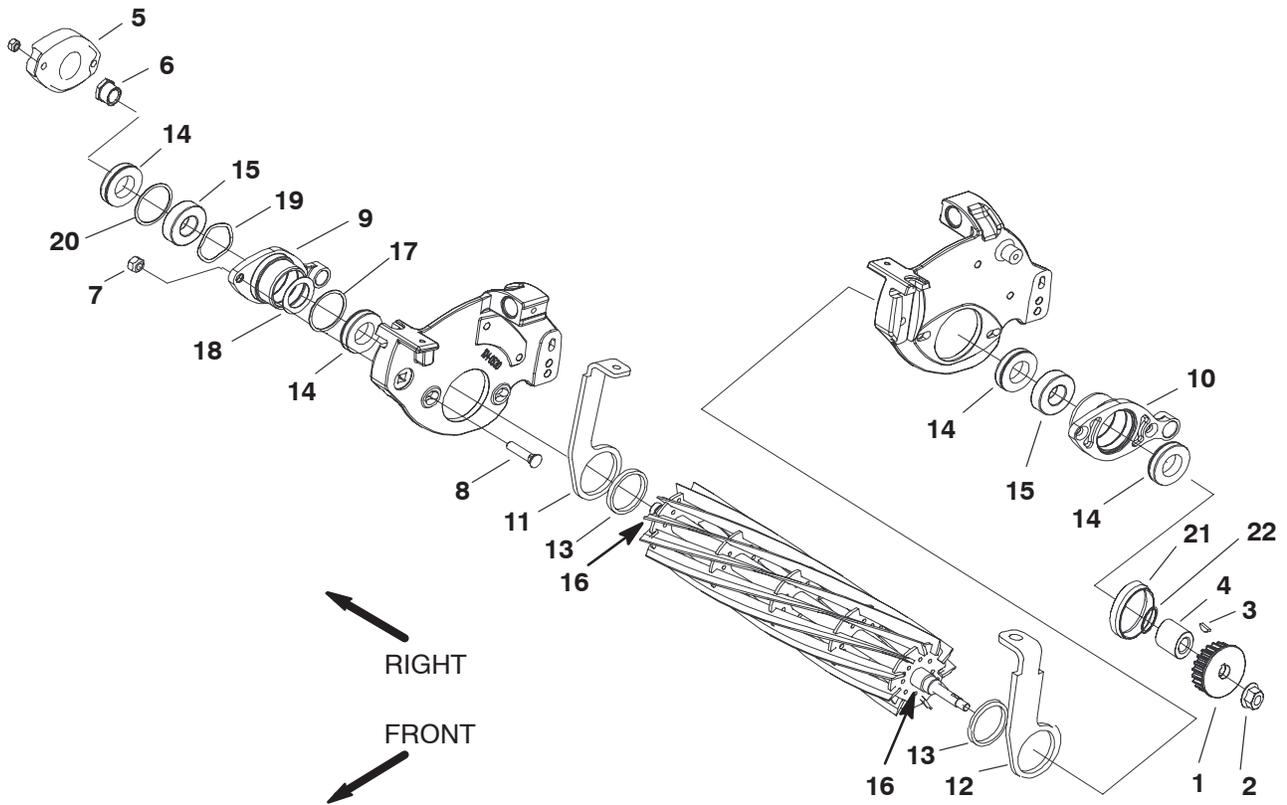

Figure 3
9. Remove the reel bearing lock nut from the right side of the reel (Fig. 3). The reel bearing lock nut has left hand threads.
10. Remove the two tapered nuts and plow bolts securing each reel bearing housing to the cutting unit side plates (Fig. 3).
Note: If this kit is being used to retrofit the cannister seals to oil seals, a new bearing locknut and spacer (Fig. 3, items 4 & 6) are required. The oil seals in this kit require the bearing locknut and spacer to have a 1.25" O.D. (old parts have a 1.125" O.D.). Order part no. 107-3227 bearing locknut and 107-3228 spacer from you local authorized Toro Distributor
11. Remove both the oil seals from each bearing housings (Fig. 3).
Note: If the reel bearings (Fig. 3) are worn or need replacement, refer to the Service Manual for bearing replacement instructions.
- Apply anti-seize lubricant to the bearing journals of the cutting reel (Fig. 3). Position the reel with the pitch arms and the bushings in the frame to accept the bearing housings. The reel shaft end with the keyway should be on the left side of the frame.
- Insert both the bearing housings (Fig. 3) through the frame onto the reel shaft.
- Apply anti-seize lubricant to the internal threads of the bearing lock nut (Fig. 3). Block the reel with a piece of wood to prevent it from turning. Install and tighten the bearing lock nut to the reel shaft.
20. Install the spacer in the left side reel bearing housing (Fig. 3). Mount the reel drive plate assembly to the side of cutting unit with two locknuts, capscrew, and lockwasher. Tighten the fasteners to secure the assembly.
21. Install the spacer and woodruff key to the reel shaft (Fig. 3). Apply anti-seize lubricant to the internal bore of the drive pulley and position the pulley onto the reel shaft. Install and tighten the flange nut that secures the pulley to the reel shaft.